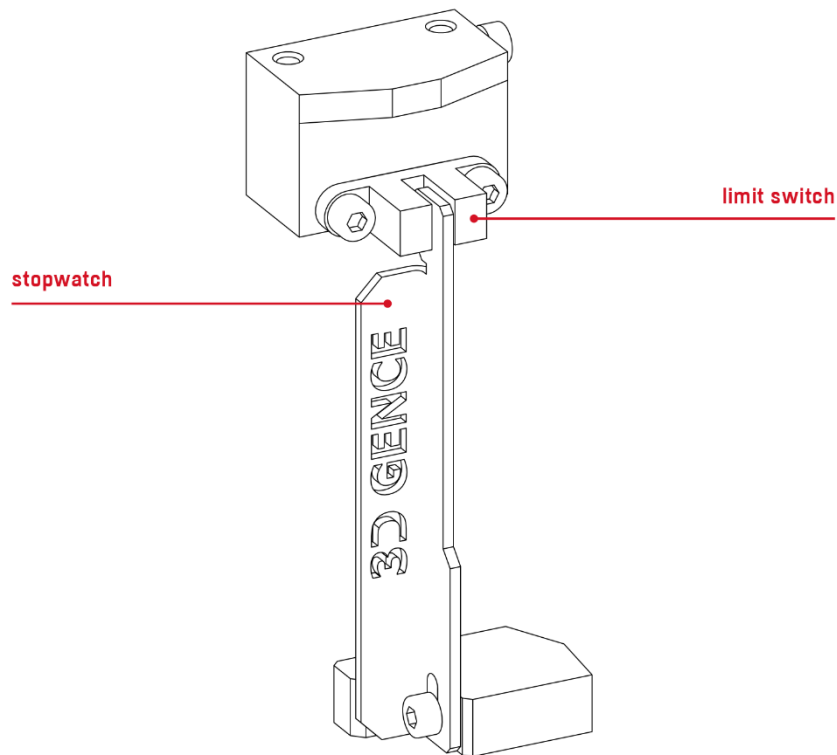

Fig. 6. Z-axis limit switch and stopwatch in their.
- check whether Z-axis stopwatch (fig. 6) is not damaged, broken or bent and if it matches Z-axis limit switch (aims at the notch in limit switch),